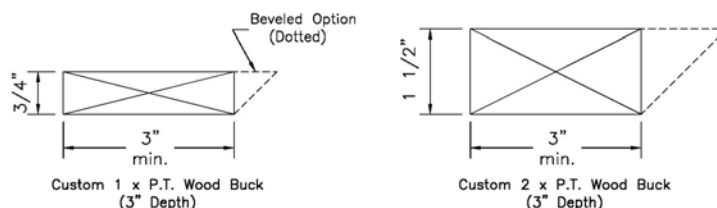

Figure 1: Wood Buck types
2. Select the size of Pressure Treated wood buck to be used (see figure 1 or refer to approval documents for approved bucks) and decide how far from the face of the wall the bucks are going to be set. Most contractors like to set the wood bucks in about 1" to 2" from the exterior face of the 8" concrete walls when installing windows.